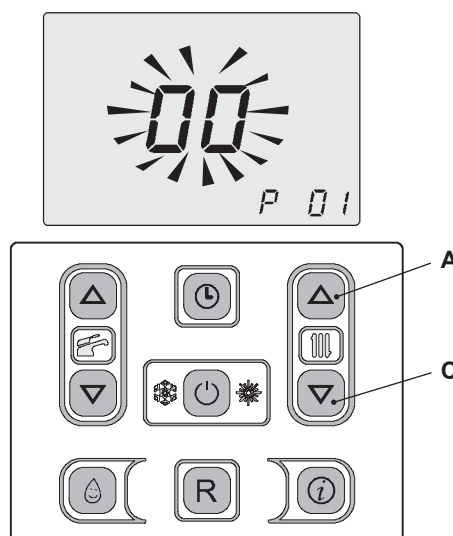

Figure 9.10
- 5 To exit from setting without modifying the set press the keys "A or C" till the visualization of parameter **P 01** showing the lighting value before the setting (Figure 9.10).